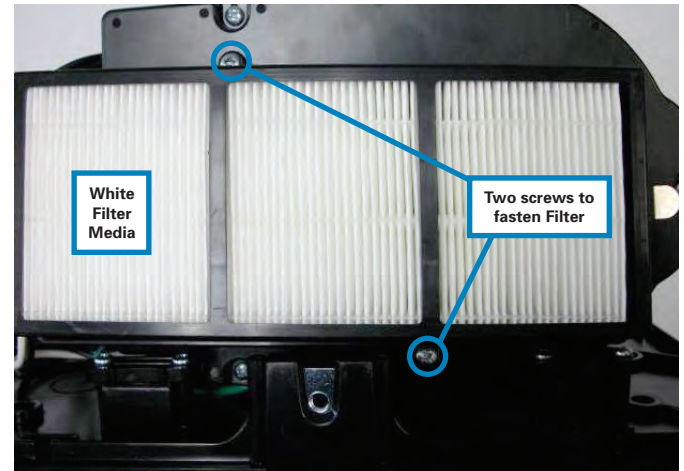

Figure 17
13. Take the HEPA Filter (B) out of the clear sealed plastic wrap and insert the Filter into the Filter Adapter. **DO NOT touch the white filter media, as this can result in reduced performance and efficiency.** The side with the foam gasket around the perimeter of the filter should be placed into the Filter Adapter first. Position the filter so that the label is facing away from the wall as shown in **Figure 18**. Fasten the filter to the Filter Adapter with the two screws previously removed in Step 2 (**Figure 17**).